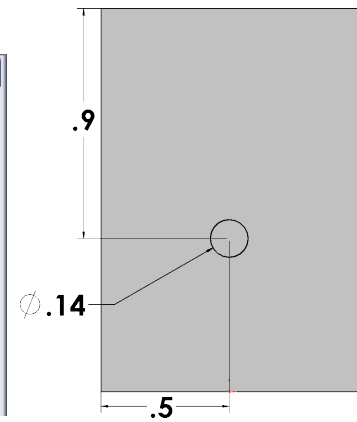

Fig. 10
Step 4. Draw circle for top screw hole, **Fig. 10**.
Step 5. Click **Smart Dimension**  (S) on the Sketch toolbar.
Step 6. Dimension as shown in **Fig. 10**.